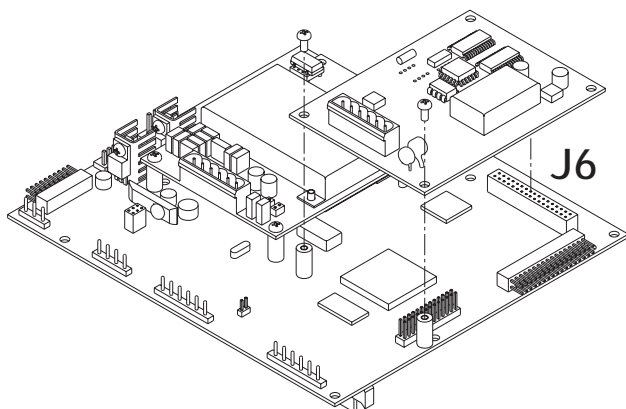

Figure 1. Installing Option Card Onto CPU Board
4. Use the screws and lockwashers provided in the option kit to secure the other end of the option card to the threaded standoffs on the CPU board (see Figure 1).